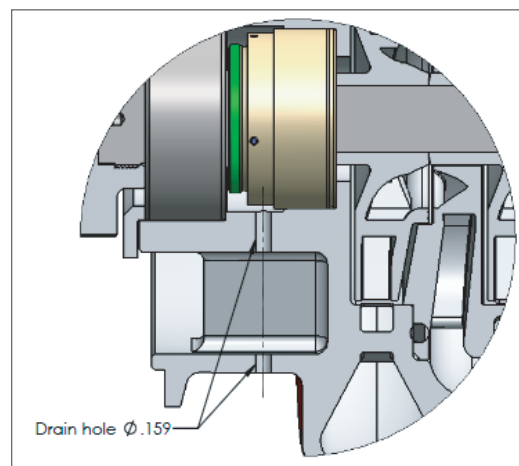

Figure 7: Section view of the drain hole
9. Insert a 0.159" drill bit in the drill press. Drill through the two walls. See Figure 7.